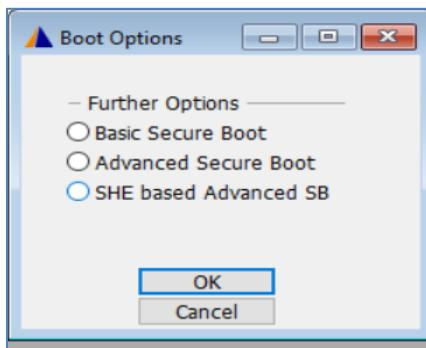

Figure 103. Secure boot options
- Further options of Secure boot pop-ups as shown in Figure 103, select Basic Secure boot and click ok.